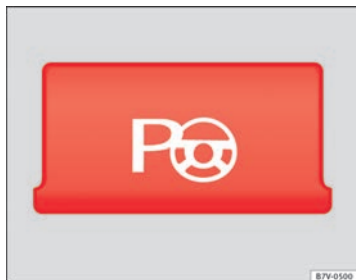

Fig. 146 Detailed view of the centre console: button to switch the park assist system on manually
- **Parallel parking:** press the  button at speeds up to 50 km/h (31 mph) **once**. When the function is enabled, the button ⇒ Fig. 146 will light up.
- **Perpendicular parking:** press the  button at speeds up to 50 km/h (31 mph) **twice**. When the function is enabled, the button ⇒ Fig. 146 will light up.
- Press button . When the function is enabled, the button  $\Rightarrow$ Fig. 146 will light up.